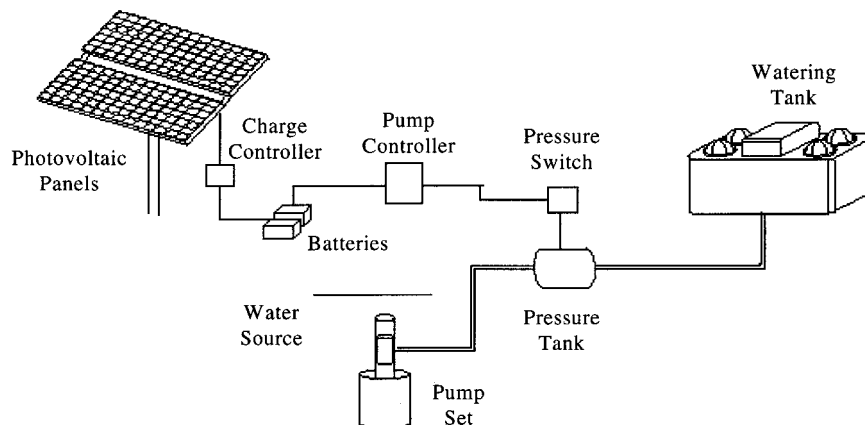

Figure 2. Battery-coupled solar water pumping system.
Battery-coupled water pumping systems consist of photovoltaic (PV) panels, charge control regulator, batteries, pump controller, pressure switch and tank and DC water pump (Figure 2). The electric current produced by PV panels during daylight hours charges the batteries, and the batteries in turn supply power to the pump anytime water is needed. The use of batteries spreads the pumping over a longer period of time by providing a steady operating voltage to the DC motor of the pump. Thus, during the night and low light periods, the system can still deliver a constant source of water for livestock.